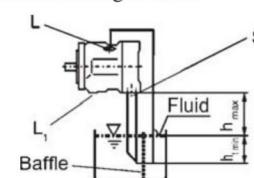

Fig. 4
- If the minimum fluid level is equal to or below the top of the pump, pipe ports "L" and possibly "S" as Fig. 4; close port "L₁".
- When mounting above the reservoir, see Fig. 4.